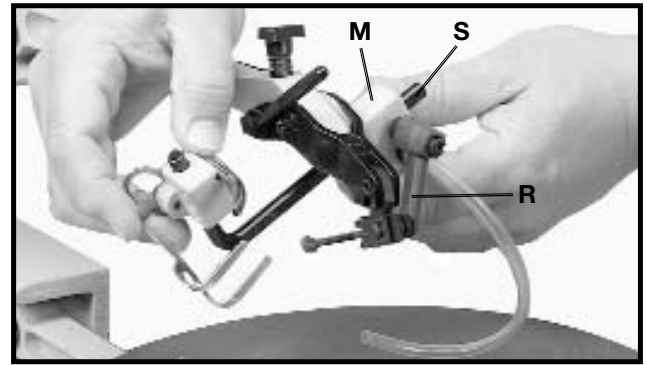

Fig. 12
10. Rotate bracket (M), to the position shown in Fig. 12. 12. Loosen lock handle (R) and insert holddown rod (S) into hole in bracket (M), as shown.